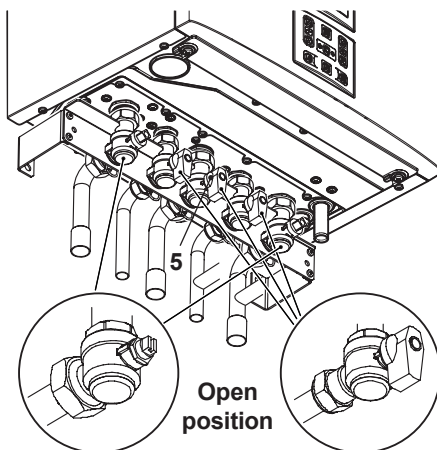

Fig. 7.1
- Open the gas cock 5 (Fig. 7.1) on the appliance and check the gas connector on the
- Open the valves located in the lower part of the boiler (Fig. 7.1).